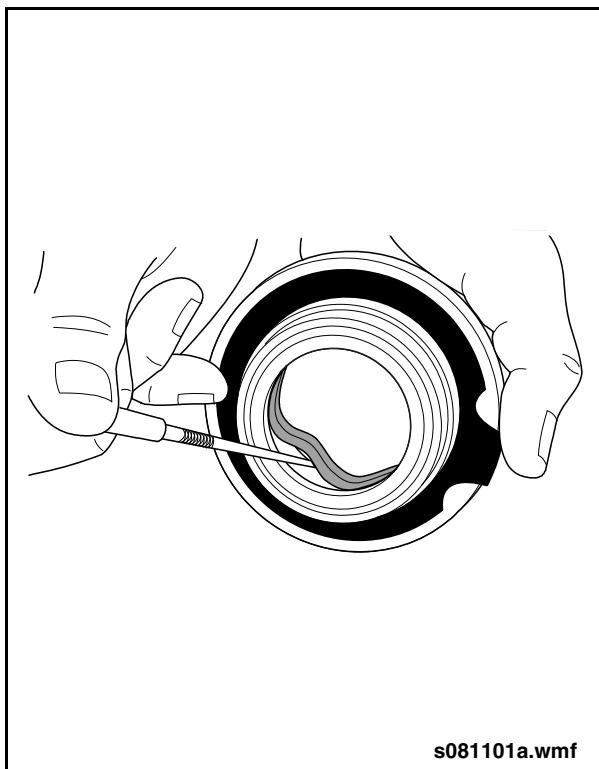

Fig. 3-20: Cover & Sector Shaft Seal Removal
9. Remove internal excluder seals from the gearbox housing (sector shaft bore) and from the sector shaft bearing cap. See "Fig. 3-20: Cover & Sector Shaft Seal Removal" on page 36.